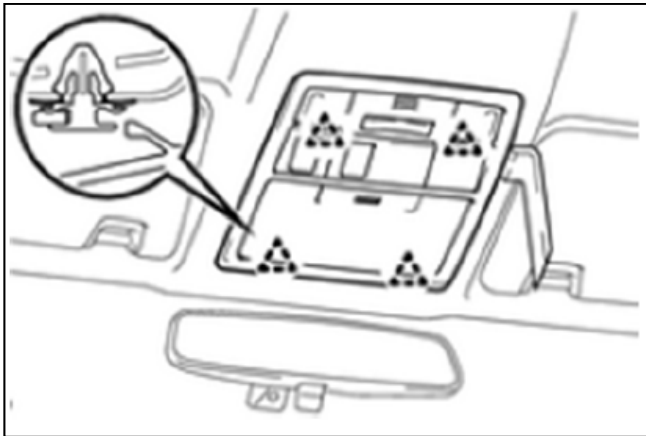

Figure 28
29. Connect the connector. Engage the 4 clips and install the map light assembly. See Figure 28.